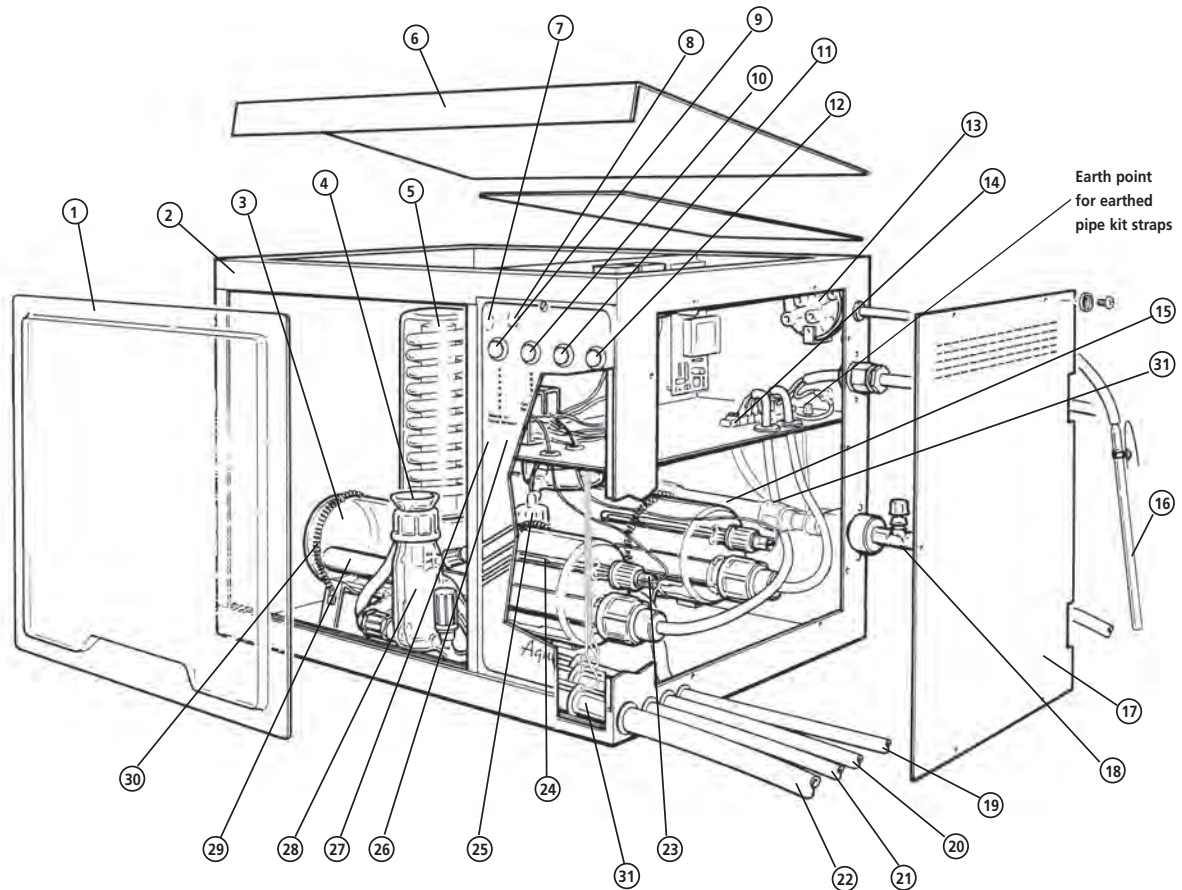
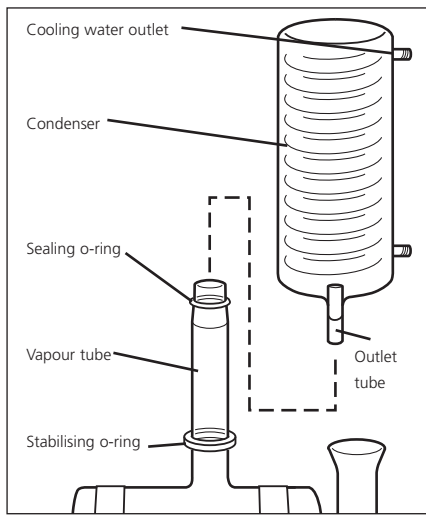

Fig 7: Major component parts A4000D
Fig 3a
Your Aquatron A4000D has been designed with ease of assembly specifically in mind, but before commencing assembly please study the illustration, fig. 7 on page 10 to familiarise yourself with the general lay-out. During assembly, follow the sequence of instructions and do not connect the mains electricity supply until directed.
- 3 Remove the perspex viewing screen, item 1 fig. 7 by using the finger recess to lift the screen out of the lower cabinet groove, then remove the internal packing which has protected the glass boilers during transit. Also sever the temporary ties holding the boiler retaining springs, item 30, in place.
- 4 Remove the cabinet end plate, item 17 by unscrewing the six retaining screws and 'shake proof washers'. Similarly, unscrew the six countersunk screws to remove the cabinet roof (item 6).
- 5 Withdraw the metal thermostat probe, fig. 7. item 24, from the glass tube inside the front boiler.
- 6 Remove the front boiler from the cabinet by releasing the retaining springs, item 30.
- 7 Ensure that the sealing o-ring and stabilising o-ring are correctly positioned, as shown in Figure 3a. Mount one of the condensers WC48/M2 onto the vapour tube of the rear boiler with the distillate outlet facing the front. See fig. 8a.
- 8 Select one of the 1000mm lengths of 8mm vinyl tubing and connect to the condenser distillate outlet tube of the rear condenser. Secure with tie strap. Pass the free end of the vinyl tubing through hole, item 19 in the cabinet side.
- 12 Connect the 4 pin DIN plug from the float switch of the W4L2A to the DIN socket, item 8, fig.7, situated inside the main chamber of the cabinet.
- 14 Ensure that the sealing o-ring and stabilising o-ring are correctly positioned, as shown in Figure 3a. Fit the remaining condenser onto the boiler with the distillate outlet at the front. See fig. 8b.
18 Connect the open end of the 16mm tubing of hose assembly 1 to the outlet of the level control WL48 item 28 fig7. Secure with a tie strap. Ensure that the Rotaflo Stopcock of the WL48 is closed.
30 Connect the cold water supply to connection 18 fig. 7.